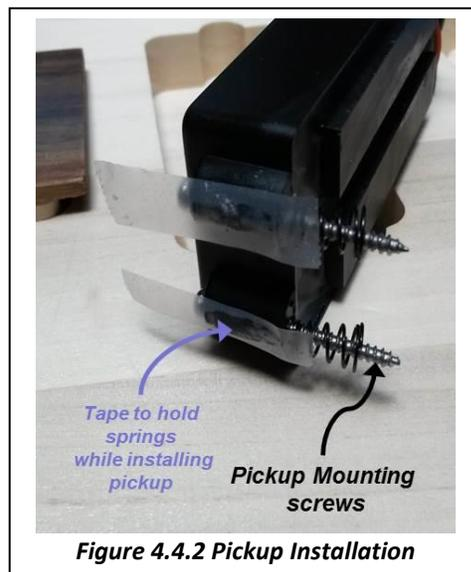

Figure 4.4.2 Pickup Installation
3. Insert each screw into the Bridge pickup (typically with the **red** shielded signal wire). Place a spring on the screw with the smaller side of the spring facing the pickup. Temporarily hold the spring in place with a small piece of tape (Figure 4.4.2).